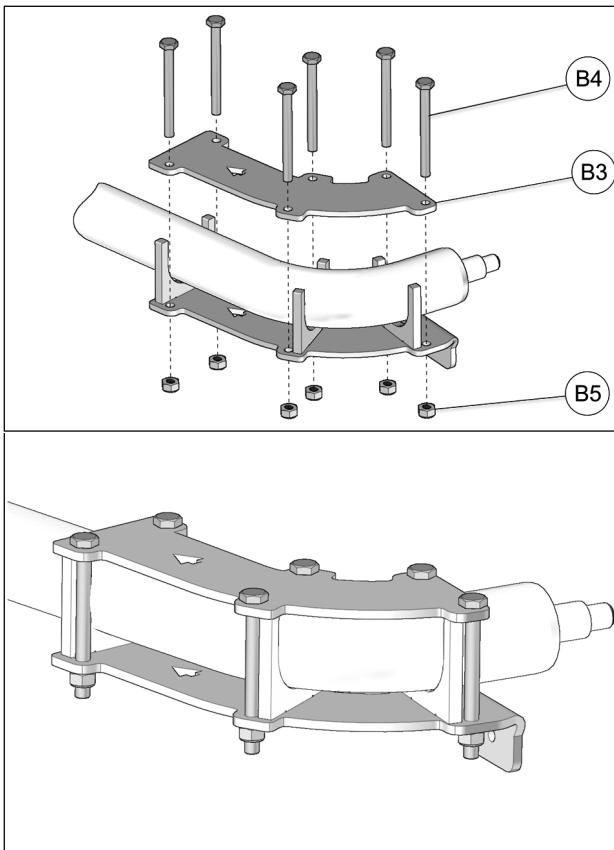

Fig. 4
- Position the bracket cover (B3) over the rear suspension trailing arm. Insert the mounting bolts (B4) in the holes provided in the cover and bracket. Use the provided nuts (B5) to tighten the assembly to 50 N•m [37 lb•ft] of torque. See Fig. 4